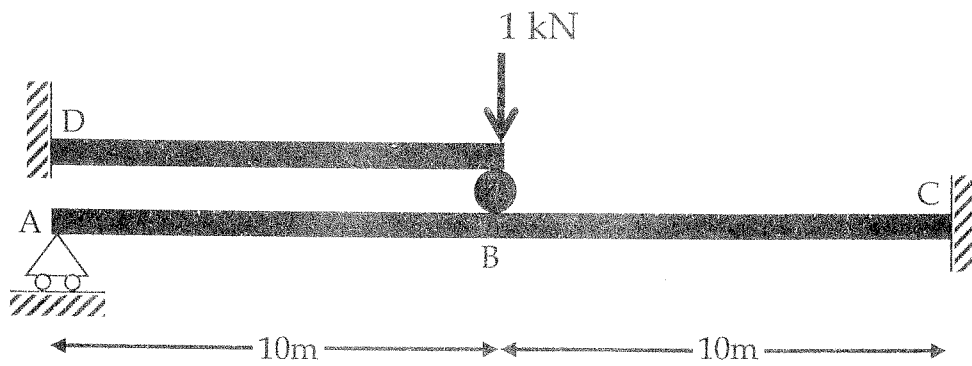

Fig. Q2
- Q2. Two beams were subjected to a point loading at point B as shown in Fig Q2. Take the lengths of the beam elements  $AB=BC=DB = 10$ m and the parameter  $EI=10 \times 10^6$  Nm2 for both beams. Using stiffness matrix method of analysis,